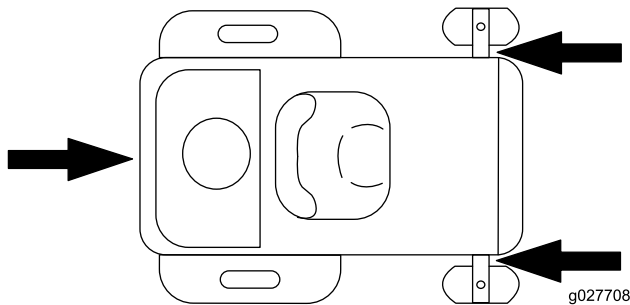

Figure 26
5. Tie down the machine near the front caster wheels and the rear bumper (Figure 26).